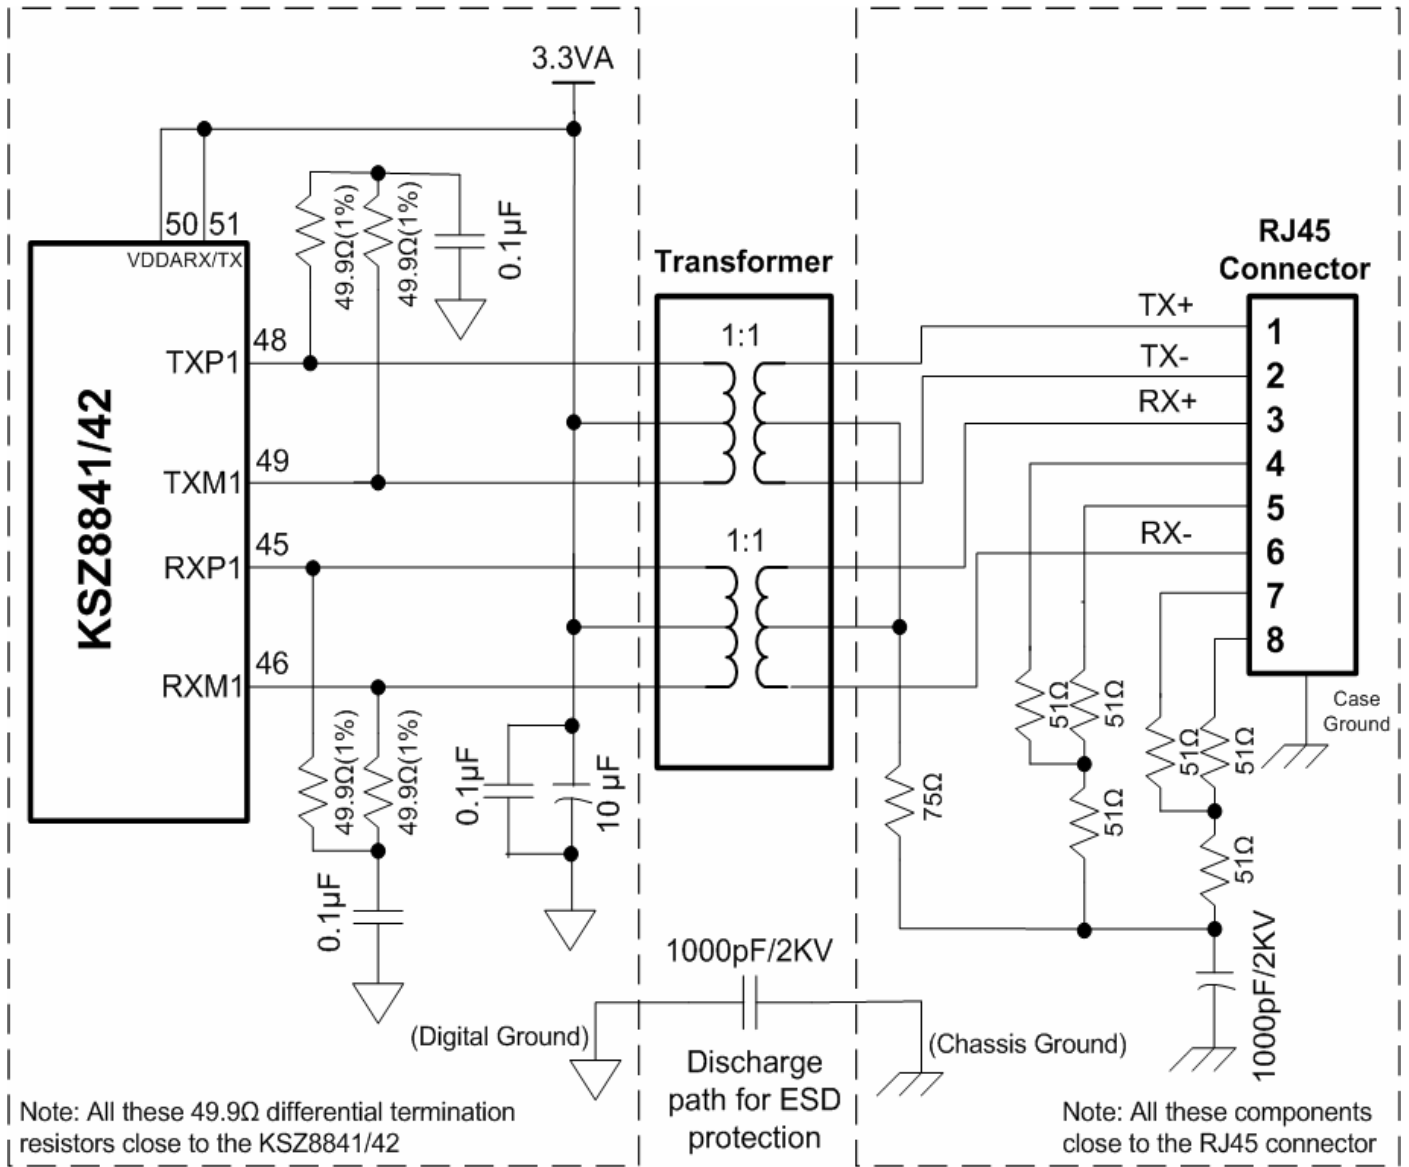

Figure 4. Inter-connection of Ethernet Front End for Micrel's KSZ8841/42 Port 1
The Ethernet front end schematic design for KSZ8841/42, as shown in the Figure 4, includes inter-connection details from RJ45 connector and transformer to the KSZ8841/42 devices.
8. The unused cable pairs on the RJ45 connector (pins 4&5, 7&8) should be terminated properly, as shown in Figure 4. These terminations should be routed with wide and short traces as close as possible to the RJ45 connectors.